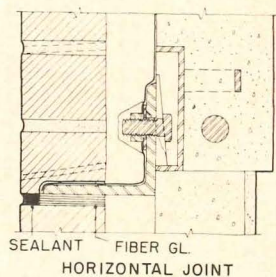
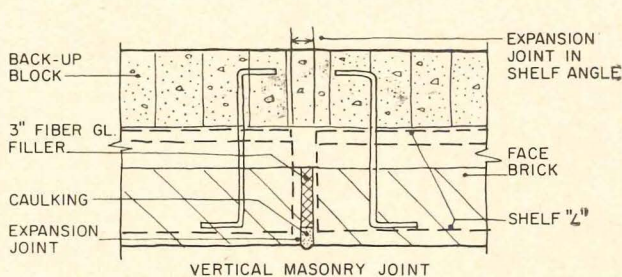

Figure 16. Horizontal joint
Figure 17. Vertical masonry joint
2. Provision of masonry joints (control joints), both horizontal as in Figure 16, and vertical as in Figure 17, for tall and long buildings respectively. Figure 18 shows the proposed location of vertical joints. These joints should be detailed and executed so as not to permit "locked" or "frozen" joints.